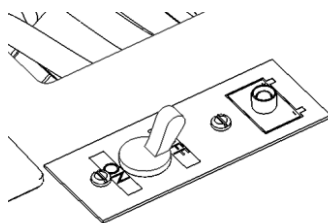
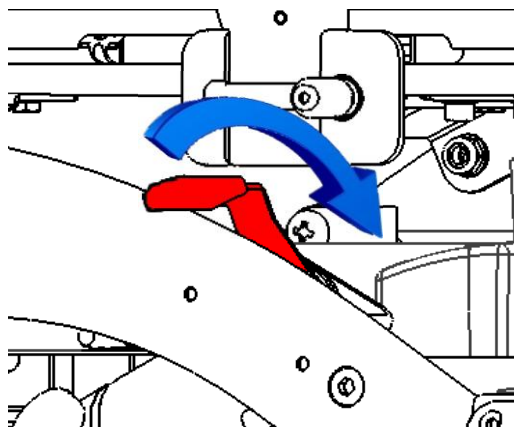

Figure 2
Figure 6
Use the switch (I), see Figure 2, to turn on and turn off the Speedstar.
If you need to use the push mode use switch (I), Figure 2, to turn off the Speedstar and set the release engine lever as shown in Figure 6.